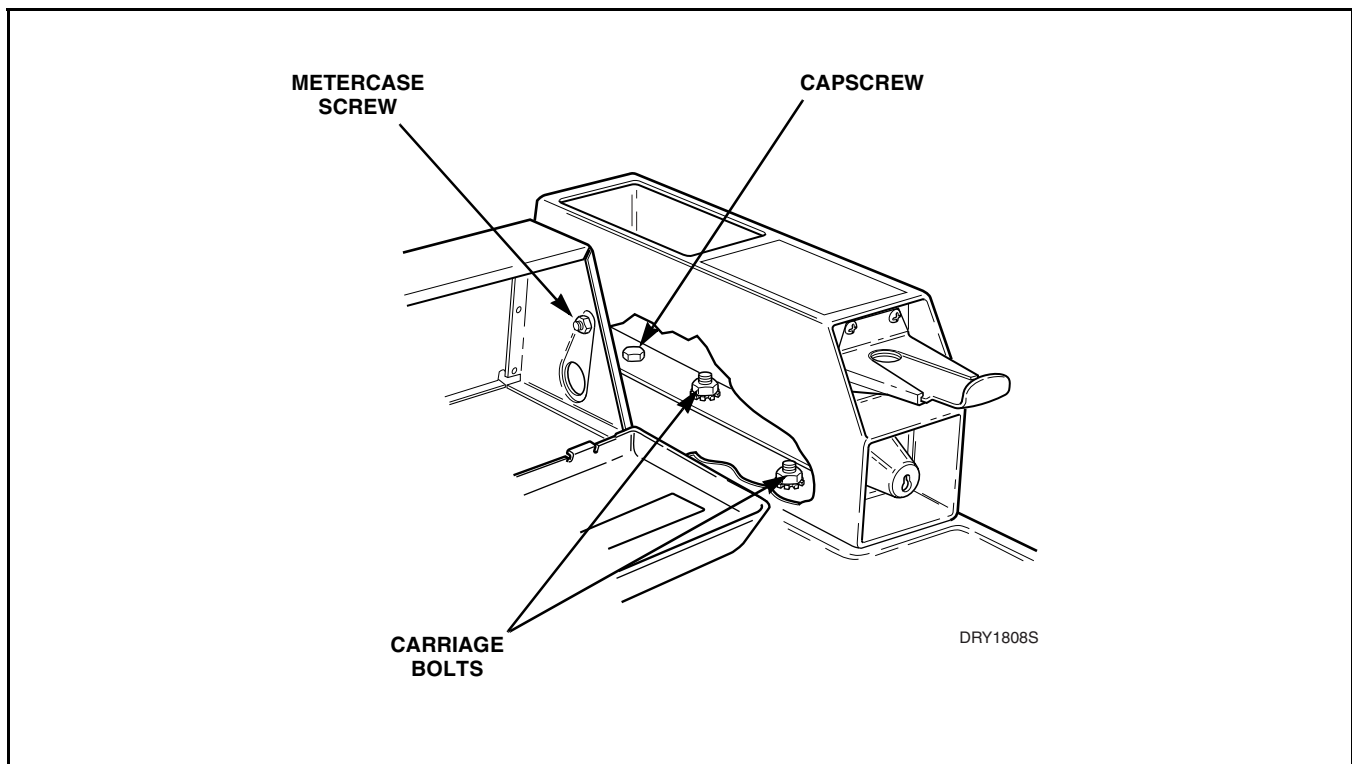

Figure 12
- g. Remove one hex head cap screw (right rear corner) holding meter case to cabinet top. Refer to *Figure 12*.
- h. Remove nut, lockwasher and screw holding meter case to right end of control hood. Refer to *Figure 12*.
- Lay the cabinet top assembly flat, remove two carriage bolts, washers, lockwashers and nuts holding meter case to cabinet top and remove meter case. Refer to *Figure 12*.
- o. Lay the cabinet top assembly flat, remove two carriage bolts, washers, lockwashers and nuts holding meter case to cabinet top and remove meter case. Refer to *Figure 12*.